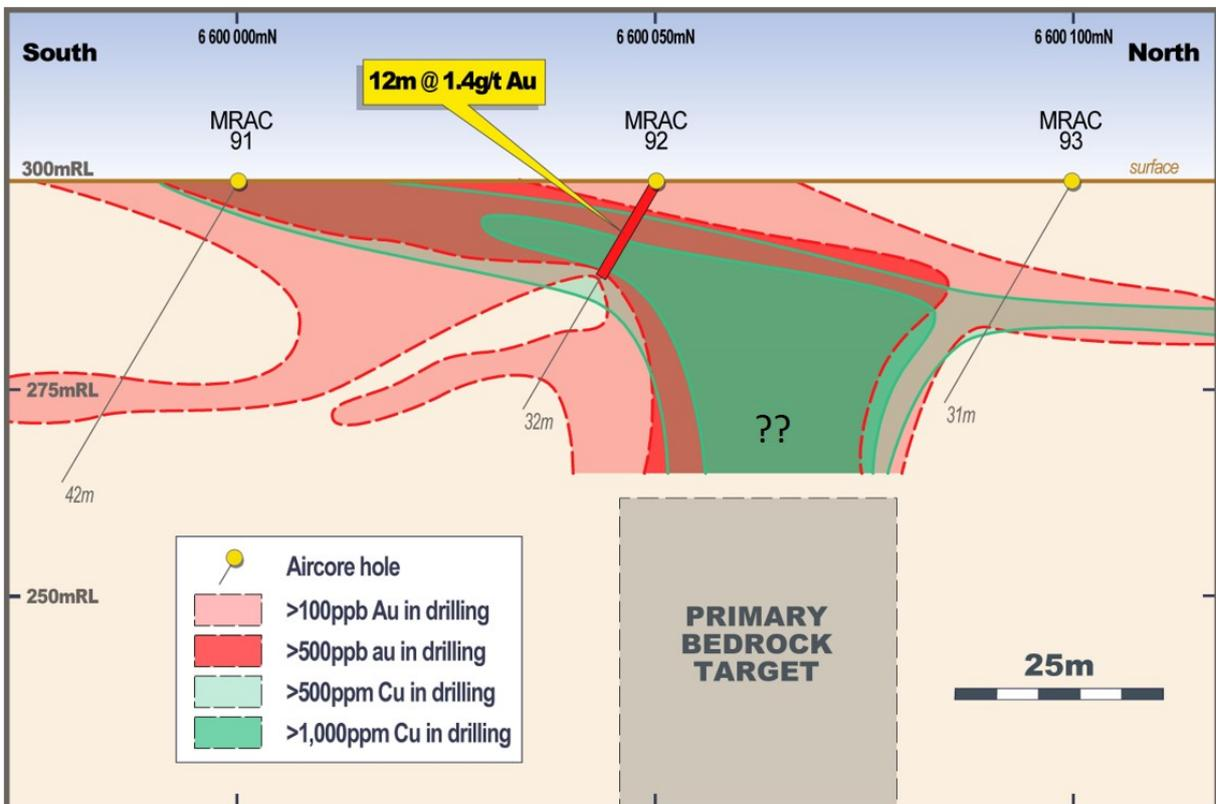

Figure 3: Mt Yule Prospect – Drill section 422050E.
- A *south-western* zone which has returned intersections of up to **12m @ 1.37g/t gold (Figure 3)**; and
Given the wide spacing of the holes, the drilling is targeting geochemical haloes in the weathered, oxidised profile that may be associated with deeper, primary mineralisation in fresh bedrock (*e.g.*, **Figures 3 and 4**).